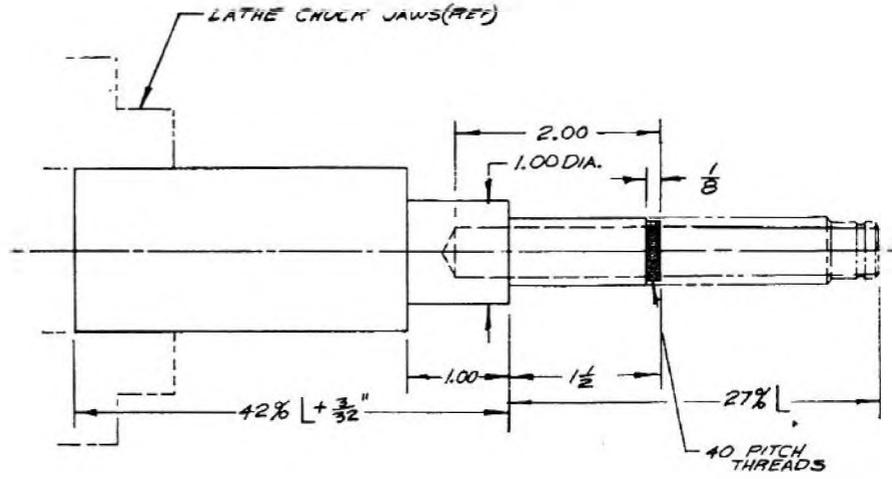

Figure 2.
The next step was obviously a powered model. Since I am interested mostly in the control effectiveness problem the natural choice was the control line model (Fig. 2). Span is 38 in. Nose angle  $100^\circ$ . Covered with 0.005 Mylar. Engine: McCoy 35. Construction entirely of hardwood and plywood. It was flown with 9/7 Tornado and 10/4 and 10/6 Top Flite props and clocked 55 m.p.h. with the 10/6. All take-offs were from the ground and after the engine stopped it was executing perfect three point landings under full control. Engine was offset some  $3^\circ$  but this definitely was not enough as I found later in the usual manner (during a loop).
Right: Fig. 2. A control line flexwing. Span 38 in., powered with McCoy 35. Mylar covering. Hardwood and balsa construction. Flew both under power and with engine stopped.
1. Bore the inside diameter of the headpipe to about 2 inches deep. Turn the outside diameter of the headpipe  $1\frac{1}{2}$  in. length. Thread the end of  $\frac{1}{2}$  inch. We used a forty pitch thread on the headpipe so that extensions can be made for varying conditions. Then turn a 1 inch diameter  $\times$  1 inch length. Face to  $42\% L + \frac{3}{32}$  inch. (See Fig. 2.)